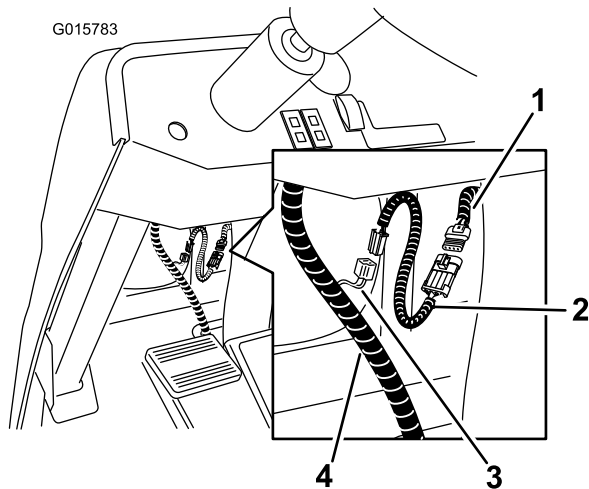

Figure 18
- B. Install the adapter to the main wiring harness by connecting the mating 4 pin connectors. (Figure 18).
C. Connect the adaptor wire harness to the CE harness (Figure 18).